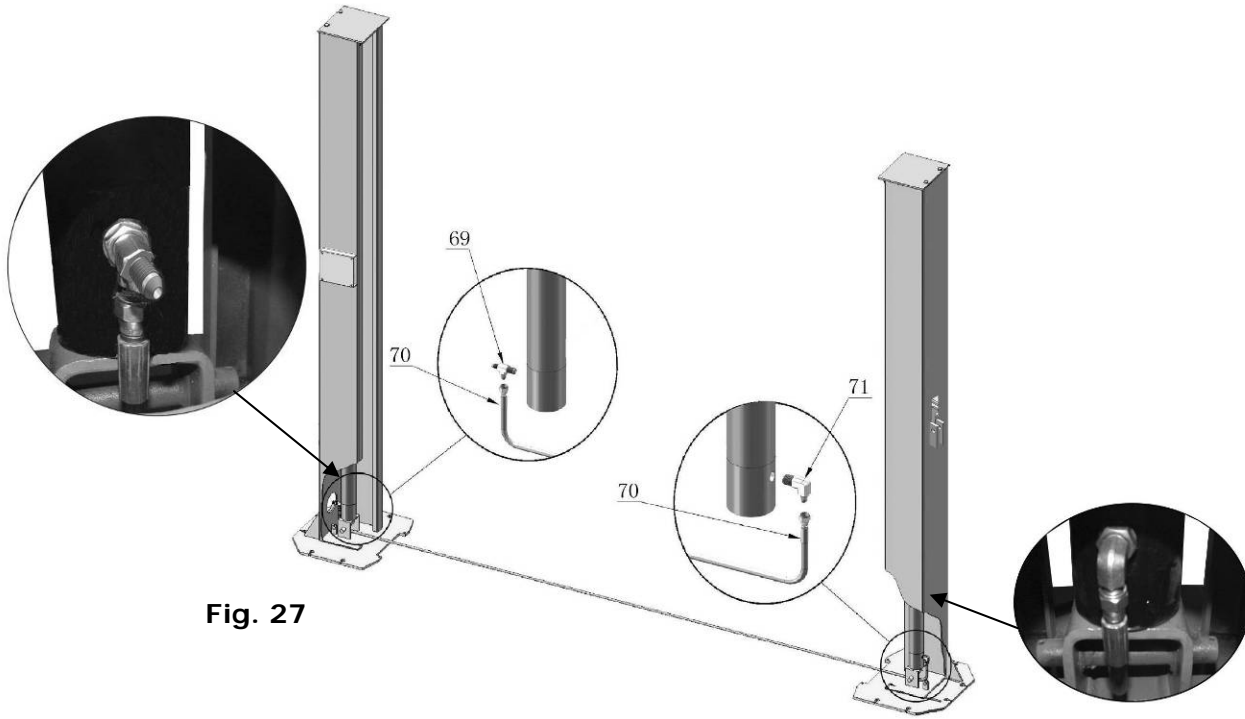

Fig. 27
J. Oil Hose Assembly (See Fig. 27).